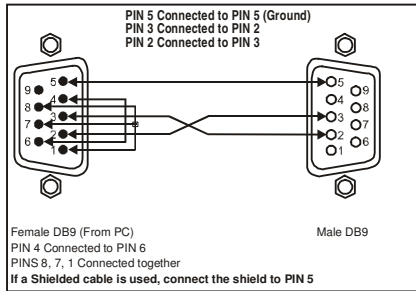

Figure 5: Connecting a PC without using a Null-modem Adapter
- Connect the RS-232 DB9 port on your PC to the RS-232 DB9 rear panel port on the Master **VP-311DVI** unit, as Figure 5 illustrates